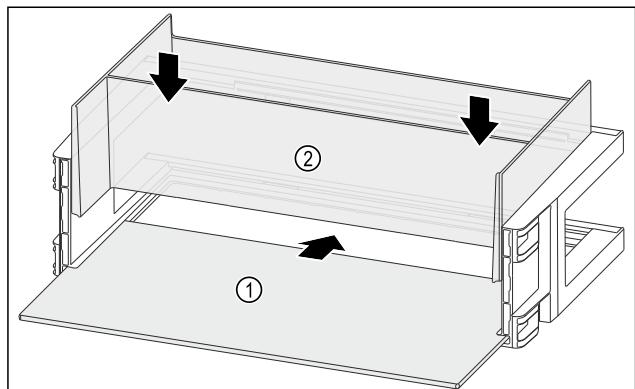

Fig. 125
- Push the shelf Fig. 125 (1) into the side recesses.
- Insert the organiser Fig. 125 (2).